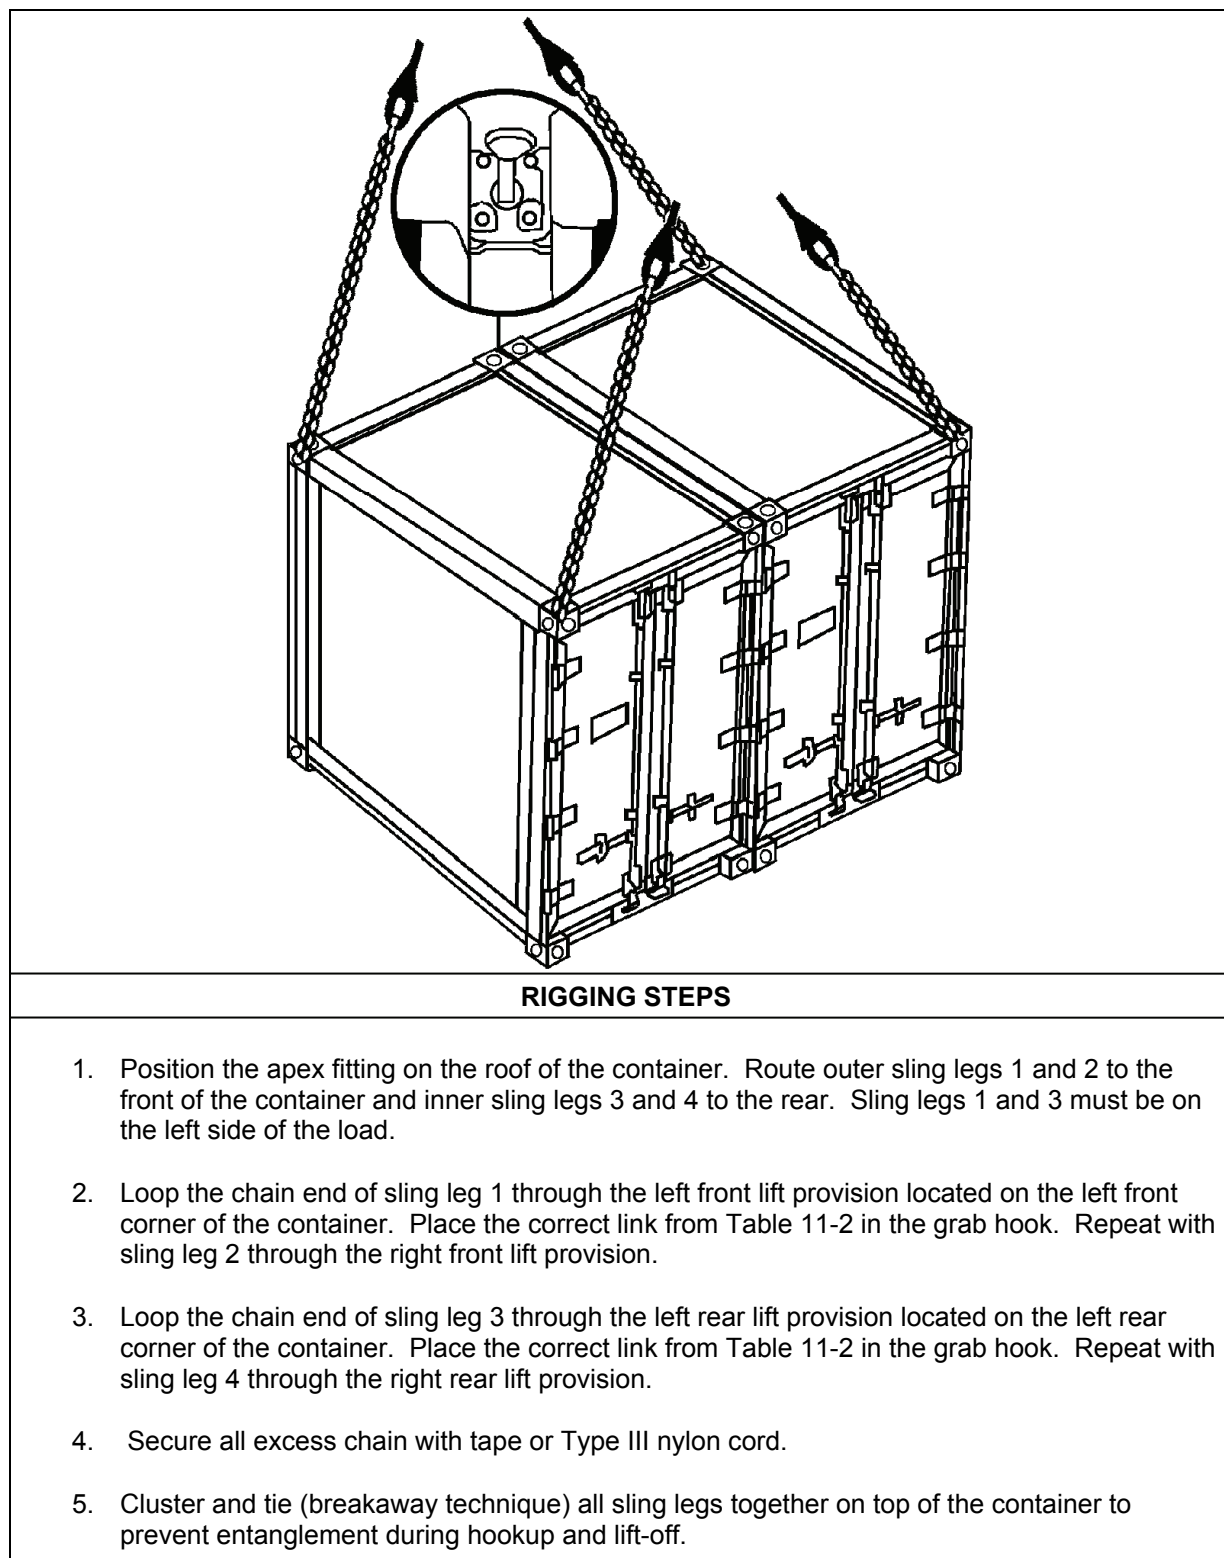

Figure 11-2. Quadcons
- **Rigging.** Rig the load according to the steps in Figure 11-2.